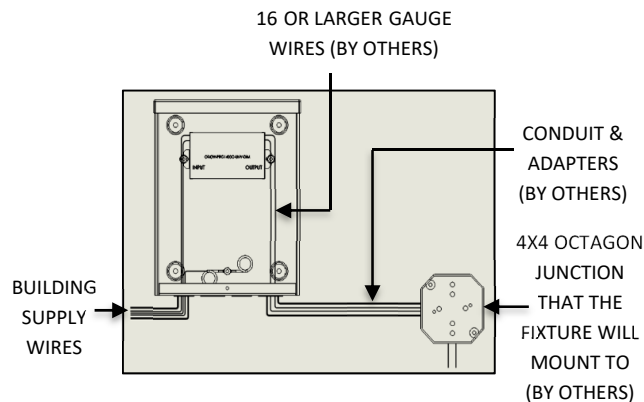
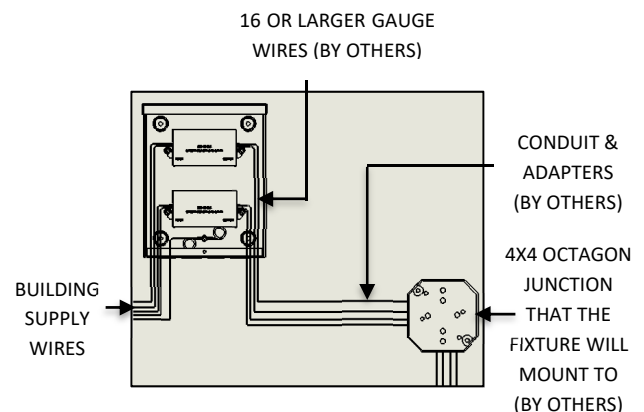

FIG. 9 – WIRE CONNECTION FROM BUILDING SUPPLY TO J-BOX FOR 24 & 36 MODELS
FIG. 10 – WIRE CONNECTION FROM BUILDING SUPPLY TO J-BOX FOR 48, 60 & 72 MODELS
5. Depending upon the size of the fixture (see WIRE DIAGRAM TABLE on Page 5 for correct Wire Diagram) run (1) set of positive and negative 16 or larger gauge wire (by others) or (2) set of positive and negative 16 or larger gauge wire (by others) from the REMOTE DRIVER HOUSING to the junction box the fixture will mount to (by others). Inside the REMOTE DRIVER HOUSING, connect:
- Dimming wires as shown on the driver in FIG. 9 and FIG. 10 below.